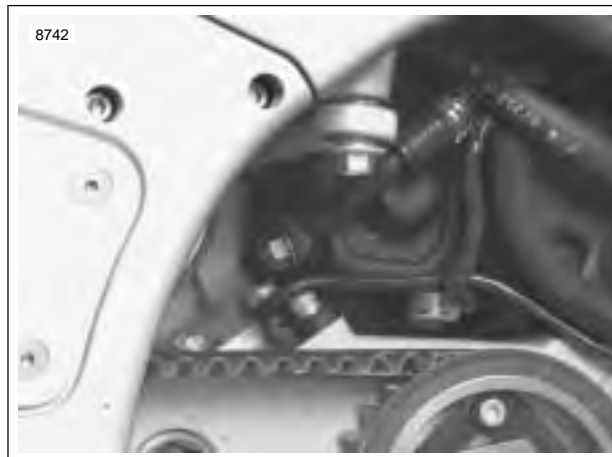

Figure 7-77. Positive Battery Cable at Starter
8. See Figure 7-77. Disconnect positive battery cable from starter.